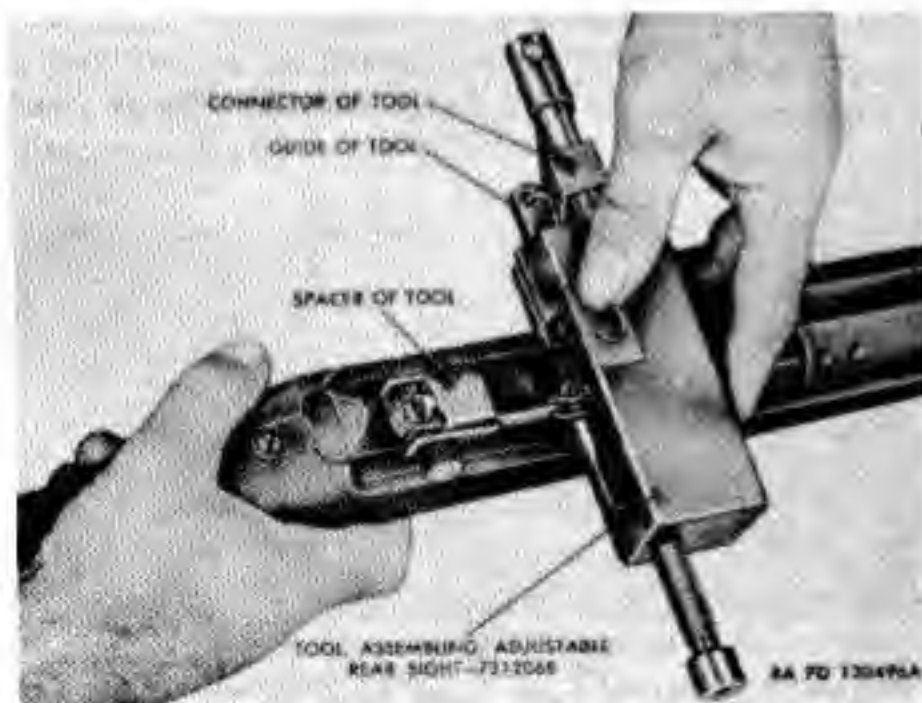

Figure 69. Rear sight assembling tool with spacer.
b. Place adjustable rear sight assembling tool 7312068 on the receiver with the lip of the tool riding on the operating slide guideway in the receiver. If the sight is of the stamped type, insert spacer (Fig. 69) (hanging at end of chain on tool) in place to prevent distortion of sight base wings. With the right hand jack screw retracted to the
7312068 in place for reinforcing the side wings of sight (Fig. 69).